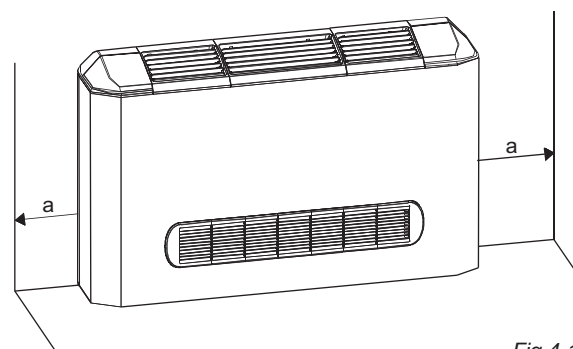
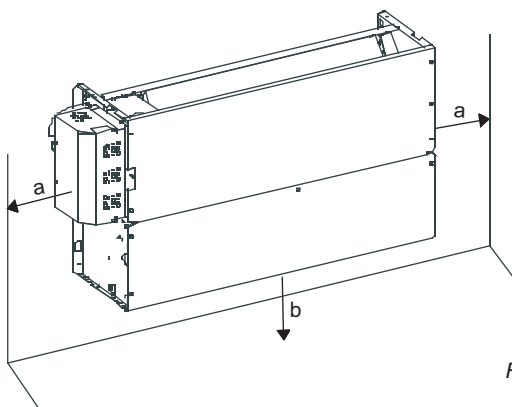

Fig.4-1
Fig.4-5
**4.1 The units may be mounted vertically ,provided that the correct clearances for positioning are maintained. (Refer to Fig. 4-1~Fig.4-5 )**